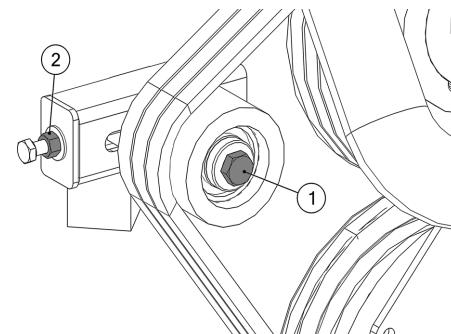

Figure 25 - Tensioner Pulley Assembly
2. Use a 19 mm spanner to loosen the bolt in the centre of the tensioner pulley until the pulley is able to slide with minimal wobble (Figure 25, Item 1).
3. Turn the nut on the end of the tensioner pulley slider until the correct belt tension is achieved (Figure 25, Item 2). (Refer to Section 5.11 "V-Belt Tensioning Procedure" on page 46.)